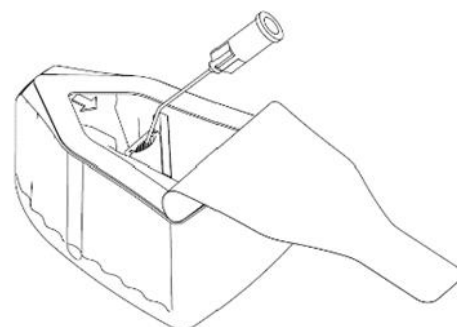

Fig. 1
3. Open the IOL container and inject viscoelastic material into the lens holder, while it is still in the container. Do not enter the cannula into the lens holder to avoid any damage of the IOL, as shown in Fig. 1.